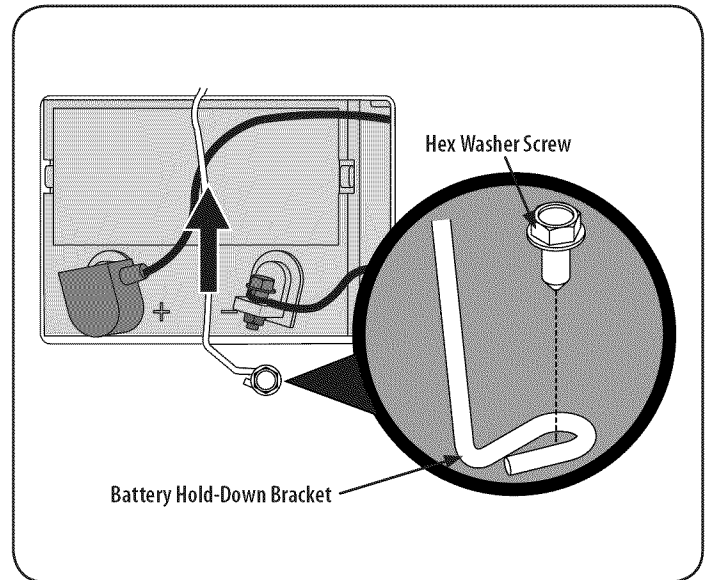

Figure 15
1. Remove the hex washer screw securing the battery hold-down bracket to the frame. Then flip the battery hold-down bracket up to free the battery. See Figure 15.